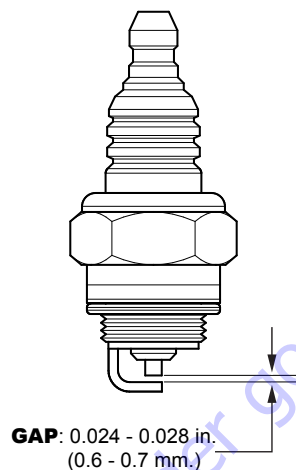

Figure 30. Spark Plug Gap
- Remove and clean the spark plug (Figure 30), then adjust the spark gap to 0.024–0.028 inch (0.6–0.7 mm). This unit has electronic ignition, which requires no adjustments.